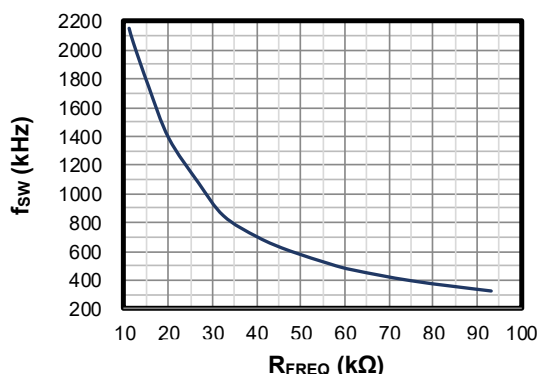

Figure 1: f_{SW} vs. R_{FREQ}
7. The MPQ4312's switching frequency (f_{SW}) can be configured by R3, the FREQ pin's resistor (R_{FREQ}). R3 can be estimated based on the relationship between f_{SW} and R_{FREQ} (see Figure 1).